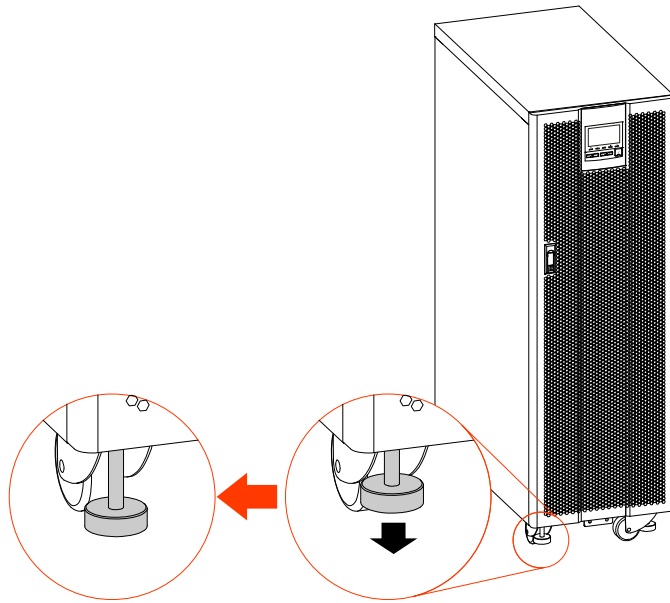

Figure3-12 Adjust supporting feet
- For 80kVA, 100kVA, 140kVA, adjust each supporting feet to parallel the supporting feet with ground, as shown in Figure3-12.